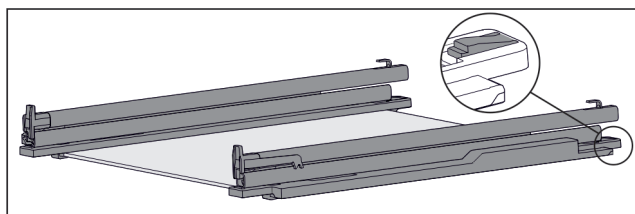

Fig. 124 Glass shelf with rails and retaining parts
- ▶ Press down retaining part at the rear (see *Fig. 124*) and at the same time push the rail back.